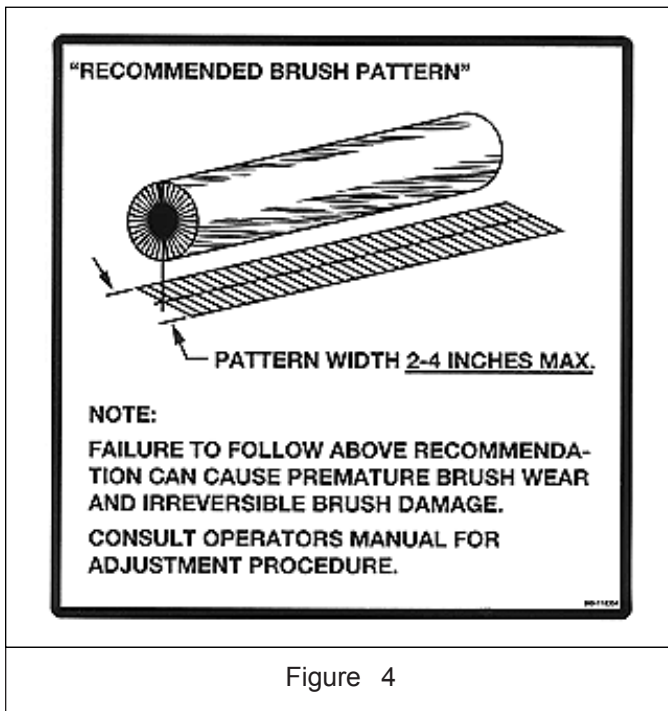

Figure 4
2. With the unit on a flat level surface, run the unit for about 30 seconds in the down position while stationary. Stop the broom and back the unit away. The 'cleaned' (contact patch) should be 2"-4" wide, front to rear, for the entire length of the broom. See Figure 4.